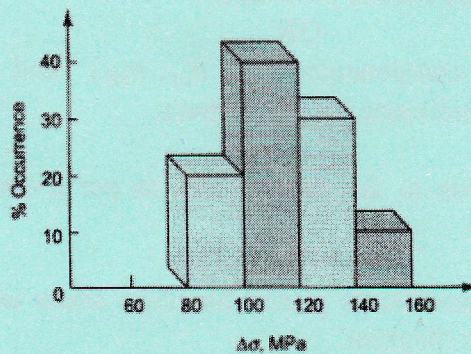

Fig.1
- b) Fluctuating load on a critical component of an offshore structure is shown by a histogram in Fig.1. During a routine check-up, an edge crack of length 1.5 mm is detected. If the crack length is not allowed to exceed 25 mm, determine the remaining life of the component. Use Paris law with material constants as  $C = 6.0 \times 10^{-12} (MPa)^{3.2}$  and  $m = 3.2$ .